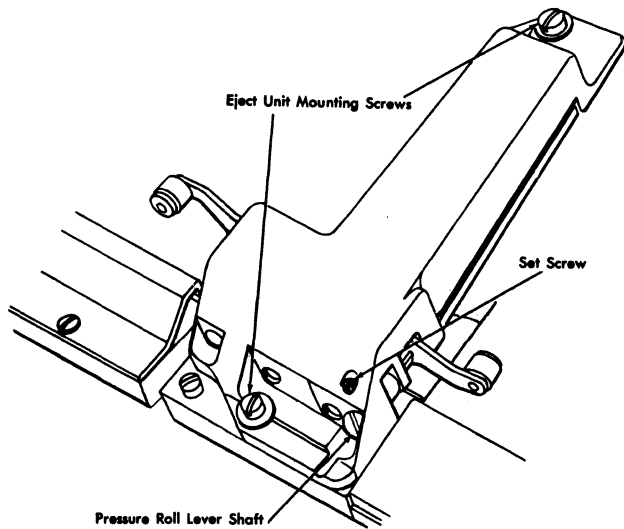

Figure 29. Master Station Registration Adjustment
1. Loosen set screw (Figure 29) and rotate pressure roll lever shaft until card does not pull away from upper rail when spacing.